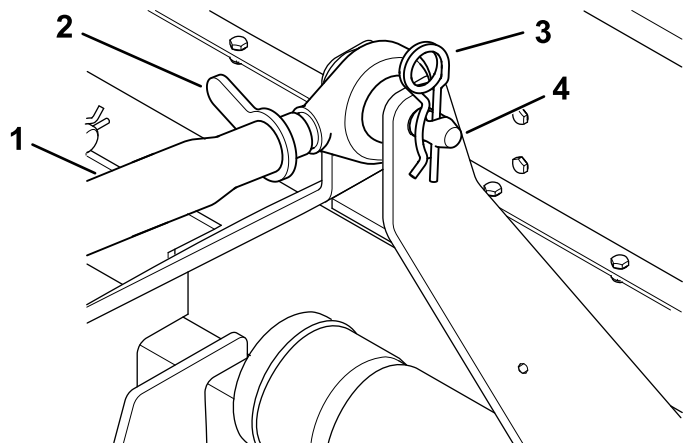

Figure 7
1. Connect the upper link arm to the bracket and secure it with the link pin and the hairpin cotter (Figure 7).